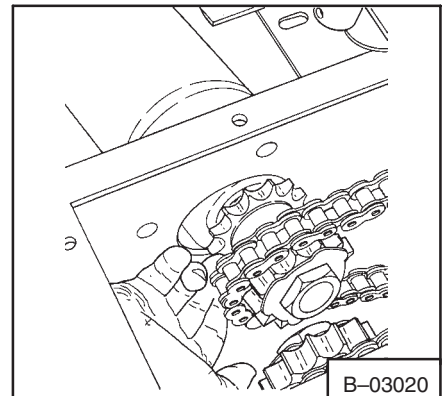

Fig. 3-34b Removing The Motor
20. Hold the motor at an angle and remove the rear chain from the motor sprocket (Fig. 3-34b).